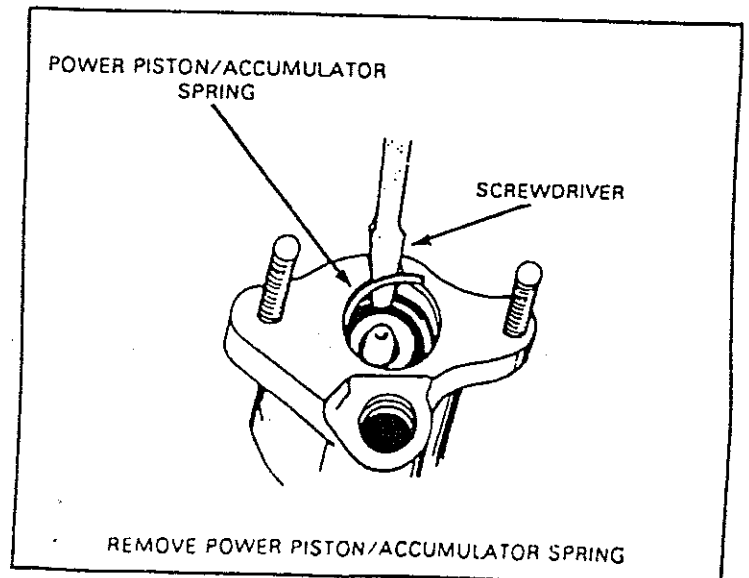

FIGURE 1
6. Remove return spring from power piston bore. See Figure 1.